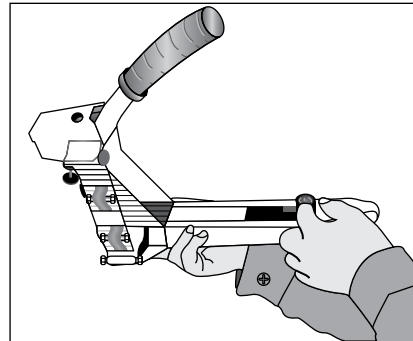

Figure 2
2. Insert up to 2 sticks of appropriate staples into the magazine. Let the sticks slide forward to the front of the magazine. (See Figure 2)